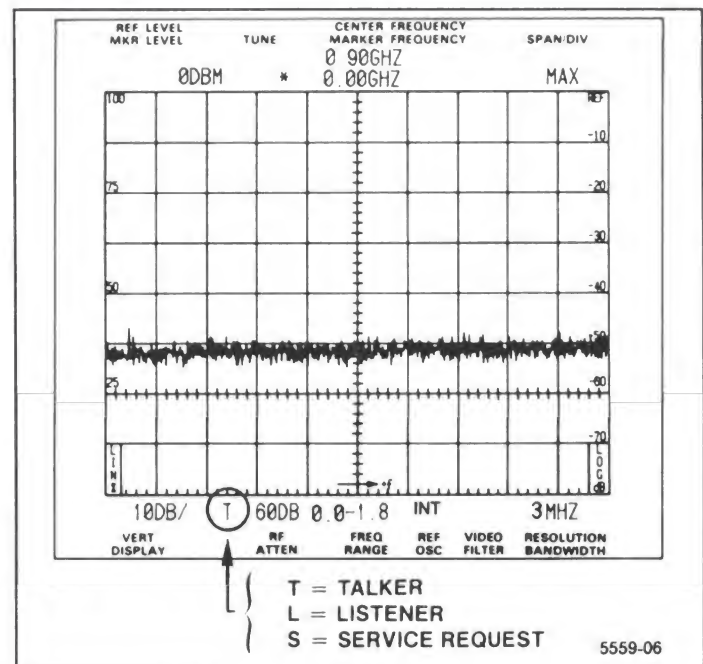

Figure 1-2. Status of active GPIB functions.
A single character appears in the lower crt readout when the spectrum analyzer is talking (T), or listening (L); see Figure 1-2. Two characters will appear in this location if the instrument is talking or listening and also requesting service (S), or if the instrument is in both the talk-only and listen-only modes.